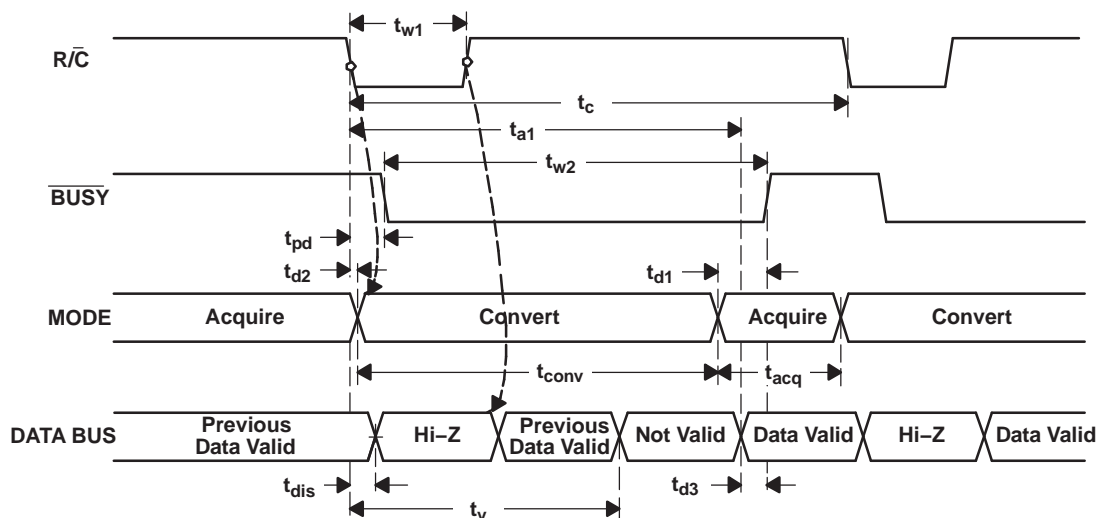

Figure 21. Conversion Timing with Outputs Enabled after Conversion (\overline{CS} Tied Low)
The ADS8515 begins tracking the input signal at the end of the conversion. Allowing 4 μ s between convert commands assures accurate acquisition of a new signal. Refer to Table 1 for a summary of \overline{CS} , R/\overline{C} , and \overline{BUSY} states and Figure 21, Figure 22, and Figure 23 for the timing diagrams.
(1) See Figure 21 and Figure 22 for constraints on data valid from conversion $n-1$.
After conversion n is completed and the output registers have been updated, \overline{BUSY} (pin 26) goes high. Valid data from conversion n is available on D15-D0 (pins 6-13 and 15-22). \overline{BUSY} going high can be used to latch the data. Refer to Table 3 and Figure 21, Figure 22, and Figure 23 for timing specifications.
After conversion n has been initiated, valid data from conversion -1 can be read and is valid up to t_2 after the start of conversion n . Do not attempt to read data from t_2 after the start of conversion n until \overline{BUSY} (pin 26) goes high; this may result in reading invalid data. Refer to Table 3 and Figure 21, Figure 22, and Figure 23 for timing specifications.
The number of control lines can be reduced by tying \overline{CS} low while using the falling edge of $\overline{R/\overline{C}}$ to initiate conversions and the rising edge of $\overline{R/\overline{C}}$ to activate the output mode of the converter. See Figure 21.